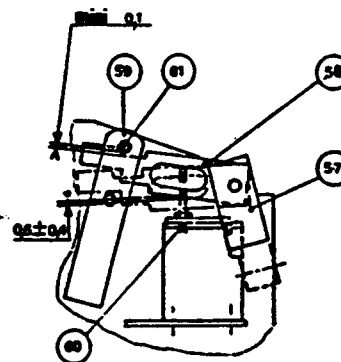

Fig. 23
Holding the striking pin (29) as illustrated in Fig. 23, apply rated voltage to the holding coil, placing release bar in unlatched position. Remove voltage and allow release bar to slowly withdraw observing
NOTE: In order to prevent blocking of the release bar from being reset when breaker opens, it is necessary to return release bar to its latched position by means of the hook illustrated in Fig. 23.
- C. Undervoltage lockout (Fig. 23). When the undervoltage release is provided with lockout to prevent breaker reclosing upon voltage restoration, the